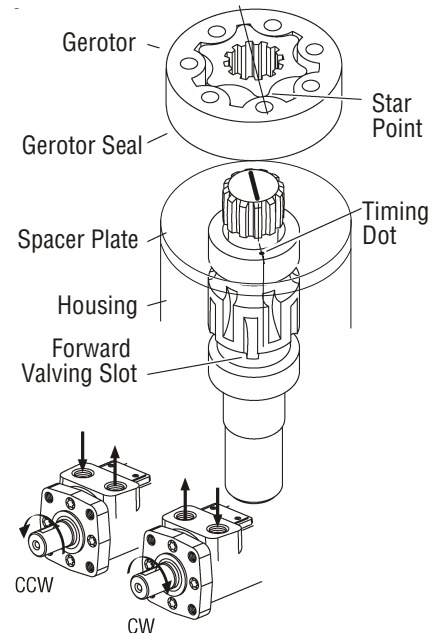

Figure 5-53, Standard Rotation
25. For standard rotation align any star point with the marked tooth on the drive. (Figure 5-53)